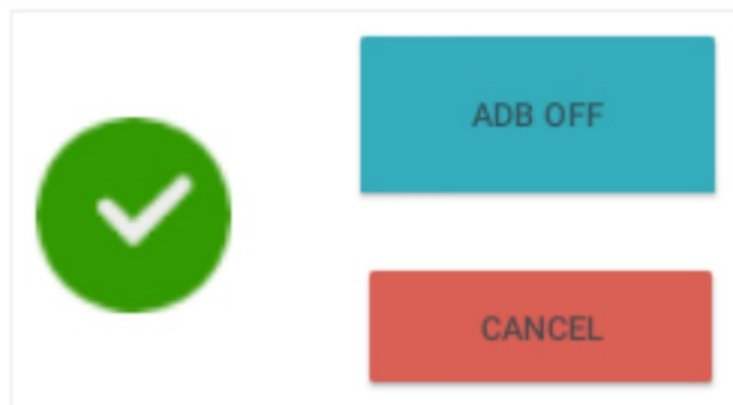

Fig. 25
3. Finally, turn the ADB function off by tapping "ADB OFF" in the status window (Fig. 25) when the debugging process has been completed.